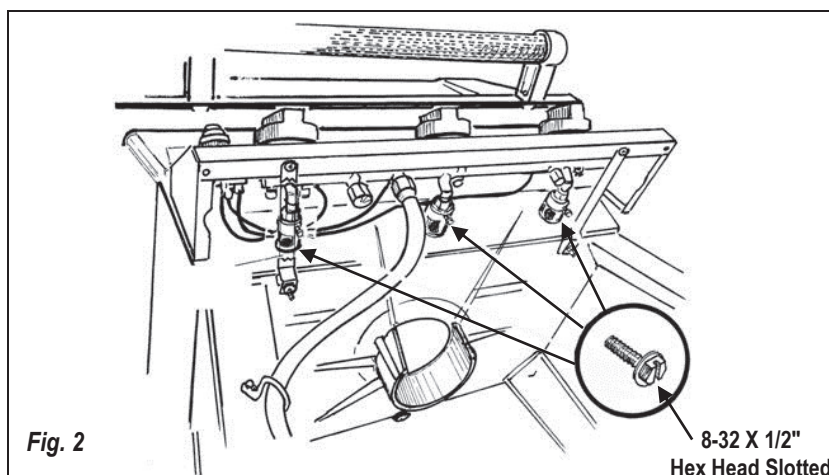

Fig. 2
2. Under the control panel, remove the screw on the burner where it meets the orifice. Use a 1/4" wrench or a slotted screwdriver for this. (Fig. 2).